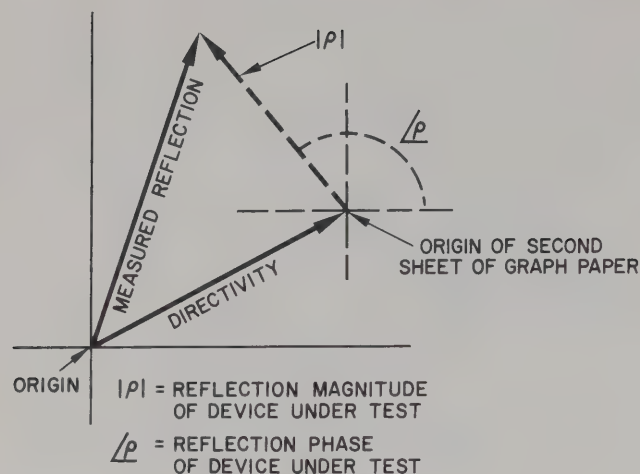

Figure 3-19. Typical Polar Plot Showing Graph Method of Cancelling Directivity
c. The vector subtraction can be accomplished conveniently by performing the subtraction graphically (using reflection coefficient, not dB) as shown in Figure 3-19. Plot the directivity vector and the measured reflection vector on polar graph paper. Place a second sheet of polar graph paper over the first with the origin of the second graph at the tip of the directivity vector, and with the vertical and horizontal axes parallel to the vertical and horizontal axes of the first graph. Draw a vector from the origin (tip of the directivity vector) to the tip of the measured vector. This vector is the reflection coefficient of the device under test.